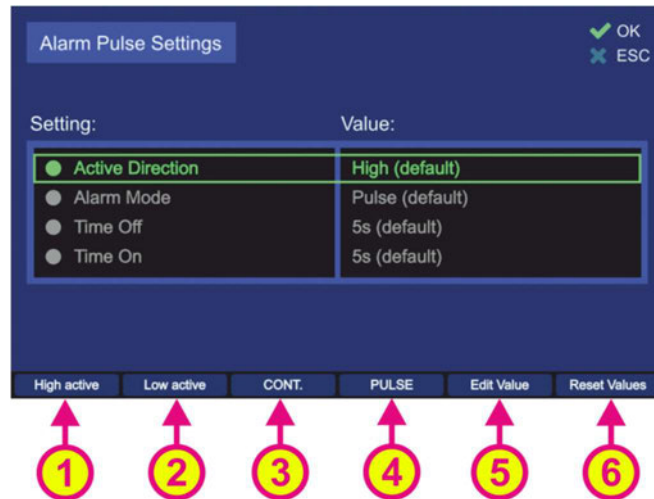
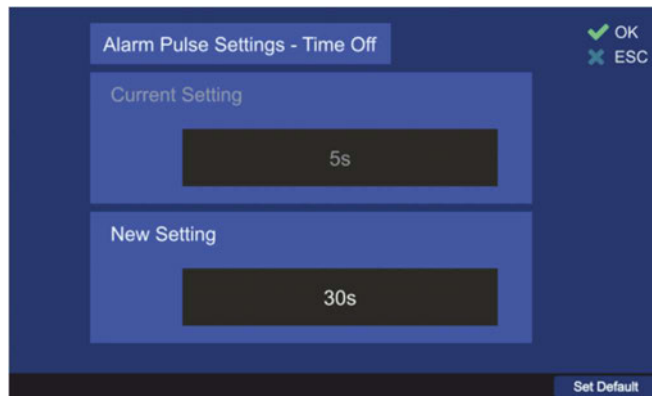

Figure 112. Alarm pulse settings
Figure 115. Time off Dialog
To change the single settings only the hotkeys for modifying the related values are used (s. Figure 112).
Active direction setting defines which direction (low or high) will lead to an alarm indication. This setting is changeable using the hotkeys “High active” / “Low active” or “Edit Value” (s. Figure 112, numbers 1, 2 and 5), whereat using the first two hotkeys will change the value without opening the separate dialog.
This setting is changeable using the hotkeys “CONT.” / “PULSE” or “Edit Value” (s. Figure 112, numbers 3, 4 and 5), whereat using the first two hotkeys will change the value without opening the separate dialog.
- To change the "Time Off"- time, press the hotkey "Edit Value" (s. Figure 112, 5). The related dialog will open (s. Figure 115).